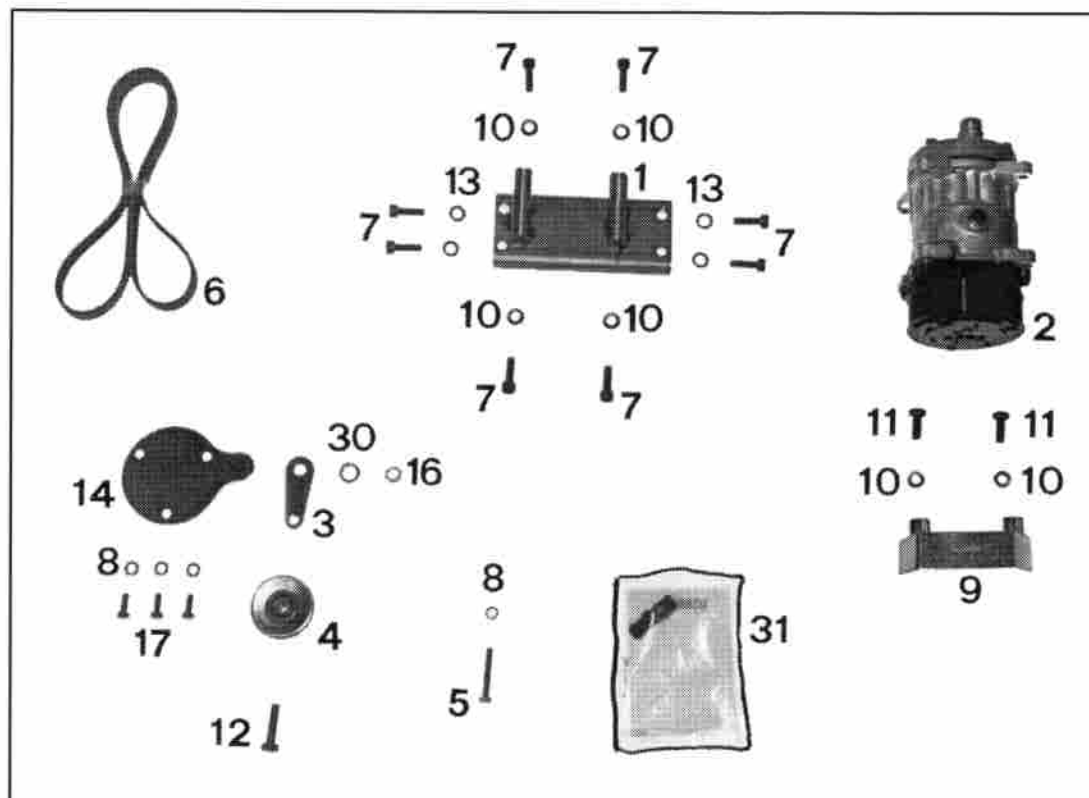

FIG. 1
**ELENCO MATERIALE FORNITO (FIG. 1)
LISTE DU MATERIEL FOURNI (FIG. 1) / LIST OF SUPPLIED MATERIALS (FIG. 1)
VERZEICHNIS DES GELIEFERTEN MATERIALS (ABB. 1) / LISTA MATERIAL ABASTECIDO (FIG. 1)**